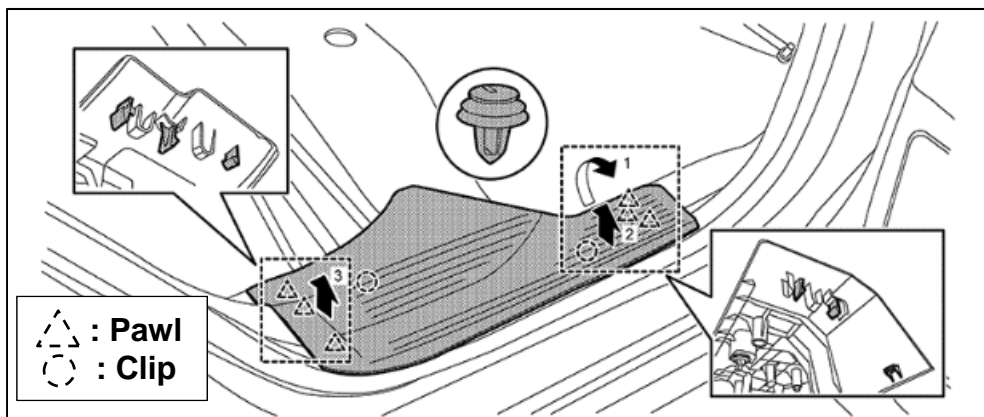

Figure 4
- Disengage the six (6) rear kicking plate fixing pawls and two (2) clips, as indicated by the arrows shown in Figure 4.